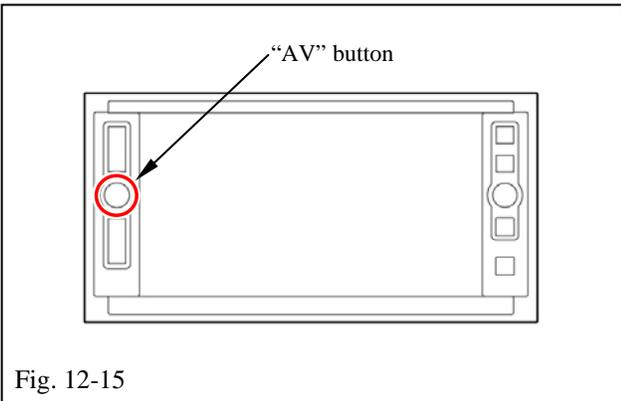

Fig. 12-15
- (1) Press the "AV" button to display the "AV Menu" screen (Fig. 12-15).